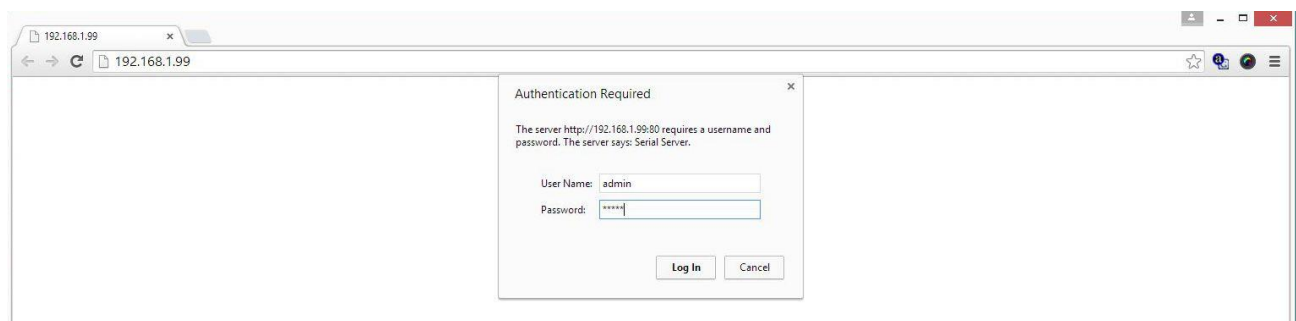

FIGURE 4.49 – AUTHENTICATION SCREEN
- 1) Now enter the browser utility which is part of the VSP Management Software or your PC's browser and enter the IP of the device. An authorization screen will come up. The default user name is "admin" and password is "admin". (SEE FIGURE 4.49).